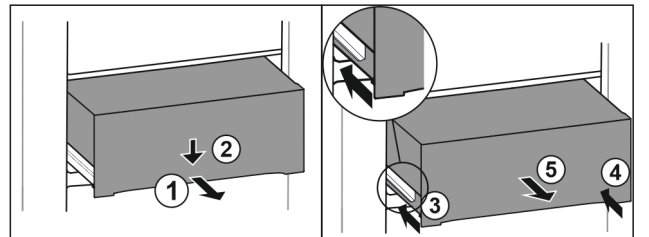

Fig. 99
- ▶ Pull out drawer half-way. *Fig. 99 (1)*
- ▶ Push the drawer down at the front. *Fig. 99 (2)*
- ▶ Push the left rail in by about 2 cm. *Fig. 99 (3)*
- ▶ Push the right rail in by about 2 cm. *Fig. 99 (4)*
- ▶ Remove drawer to the front. *Fig. 99 (5)*